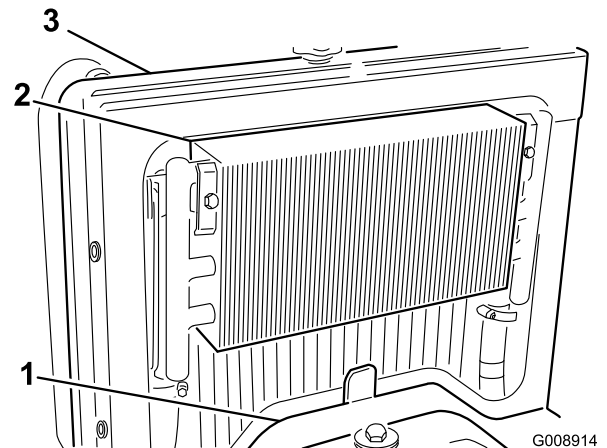

Figure 66
3. Remove the access panel (Figure 66).